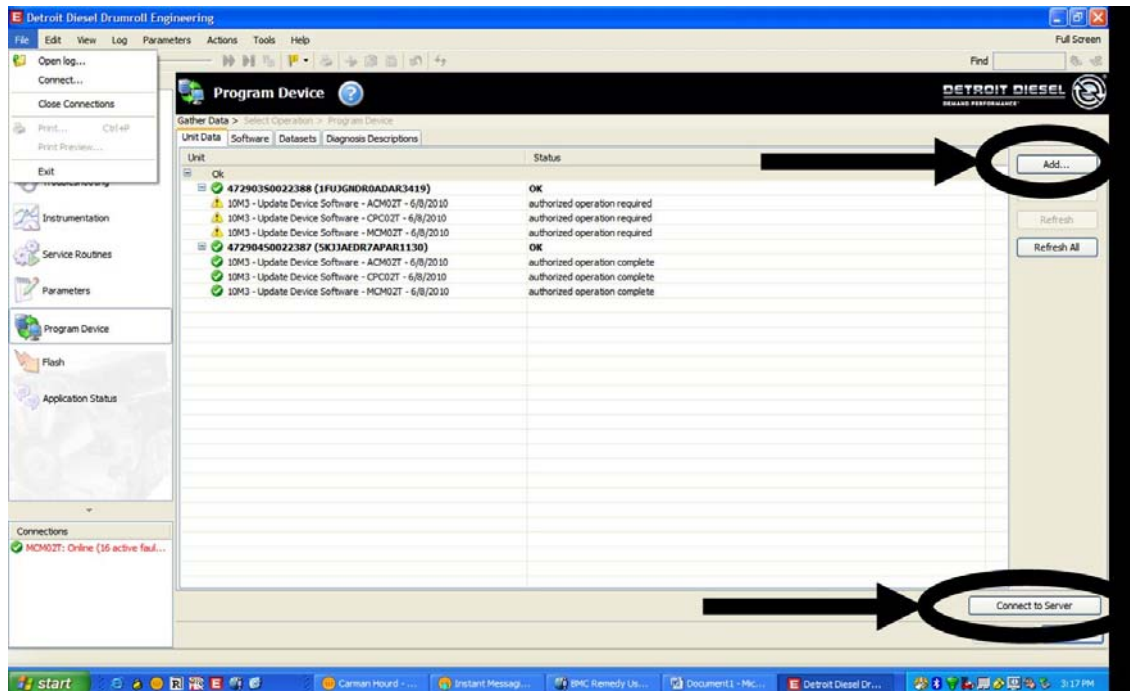

Figure 3 – Adding Engine Serial Number and Connecting to Server
8. Select the “Add” button in the upper right corner of the DiagnosticLink® screen and enter the engine serial number. Then click the “Connect to Server” button in the bottom right corner of the DiagnosticLink® screen. See Figure 3.